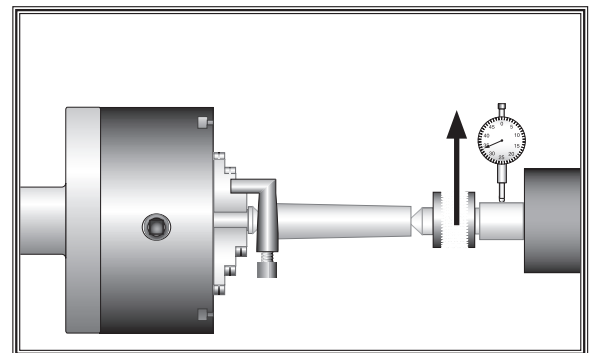

Figure 19. Tailstock adjustment option #2.
- If it is thinner at the tailstock end, move the tailstock away from you half the distance of the diameter (**Figure 19 & 20**).